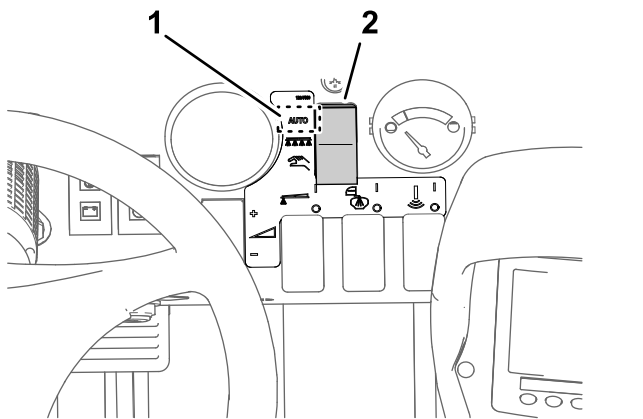

Figure 29
3. Set the sprayer mode button to the Application Rate Mode (Figure 29).